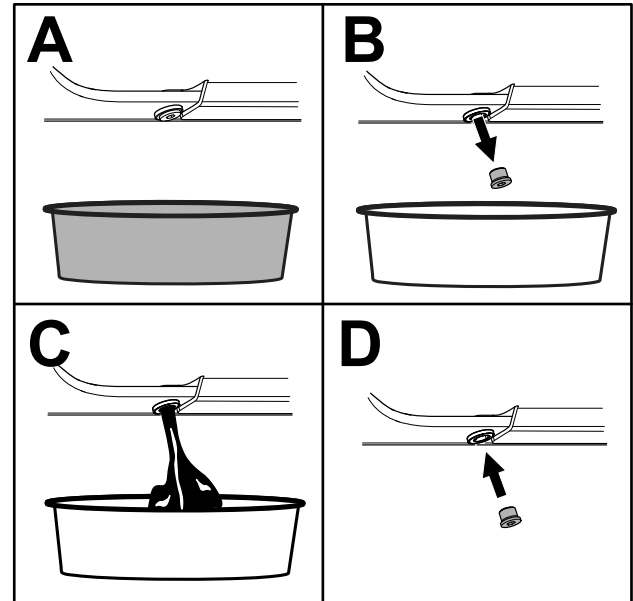

Figure 50
5. Drain the oil beneath the platform (Figure 50).